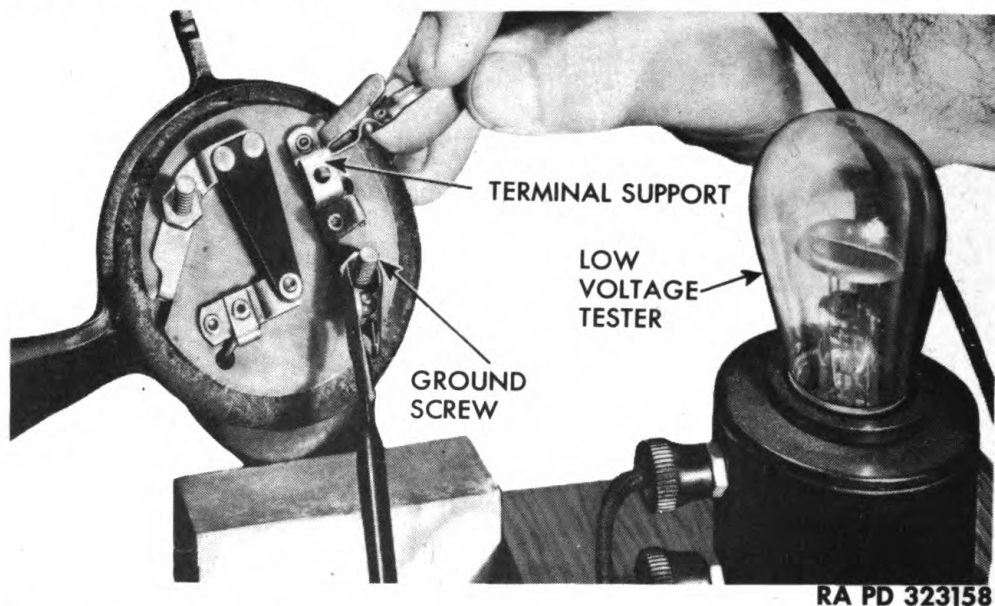

Figure 159 — Testing Coil for Open Circuit, Using Tester (17-T-5575)
c. Test Coil (fig. 159). Use low voltage circuit tester (17-T-5575) and check for breaks in coil. Have breaker cover removed. Connect one test point to grounded part of solenoid, and other test point to terminal support. When solenoid contact points are together, both coils carry current. When contact points are apart, only the holding coil carries current. If test light shows the holding coil to be open when the contact points are apart, replace with new solenoid housing and bracket assembly.